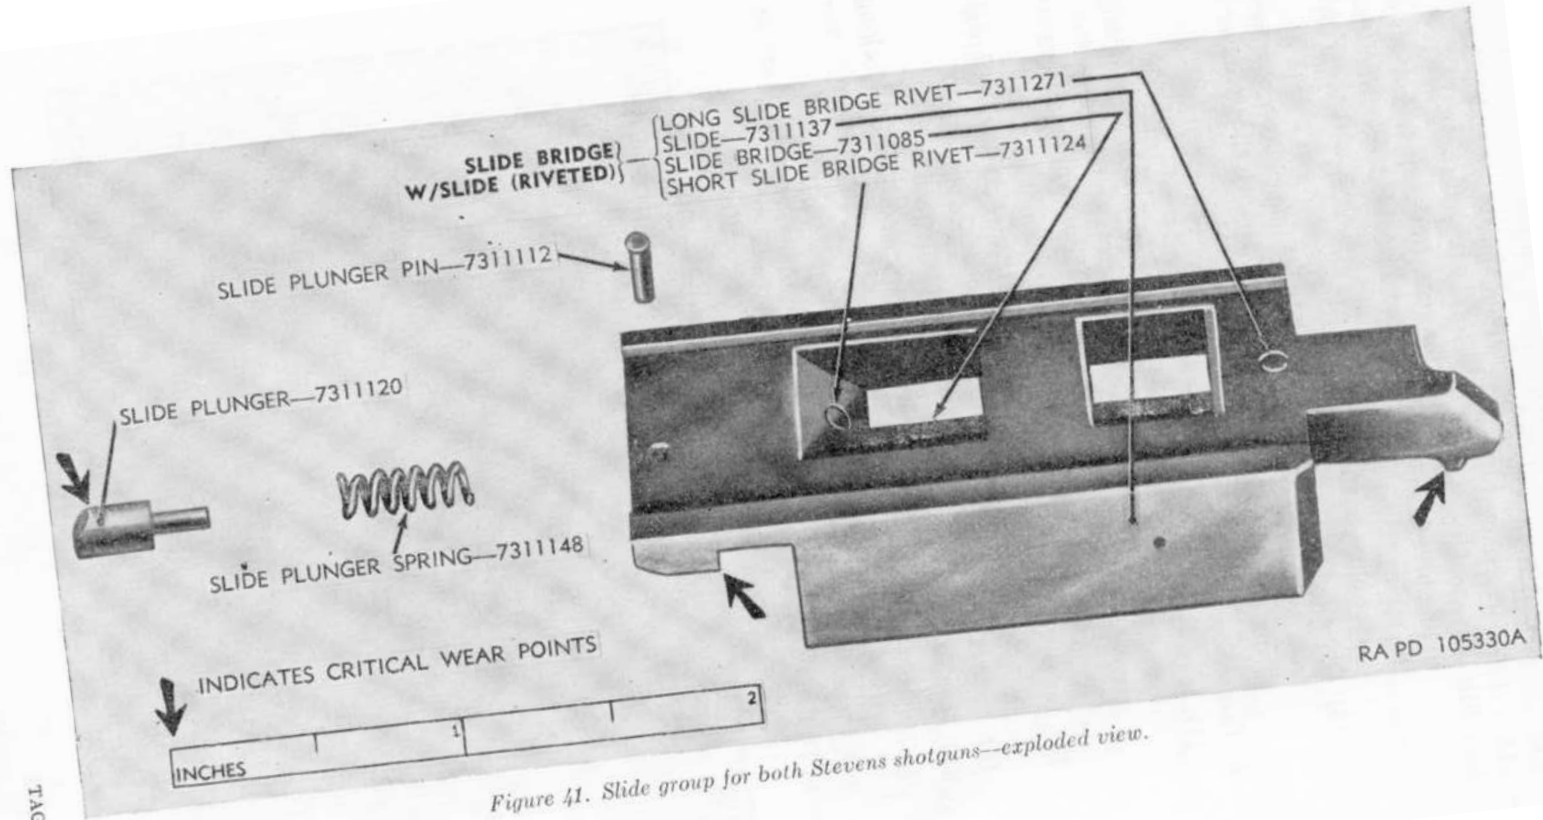

Figure 41. Slide group for both Stevens shotguns—exploded view.
- (4) Drive out slide plunger pin, while holding plunger compressed, from bottom to top of the slide and remove slide plunger and spring (fig. 41).
- (1) Insert slide plunger spring and slide plunger (fig. 41) in hole in slide; compress spring with plunger until slide plunger pin can be inserted from top of slide.